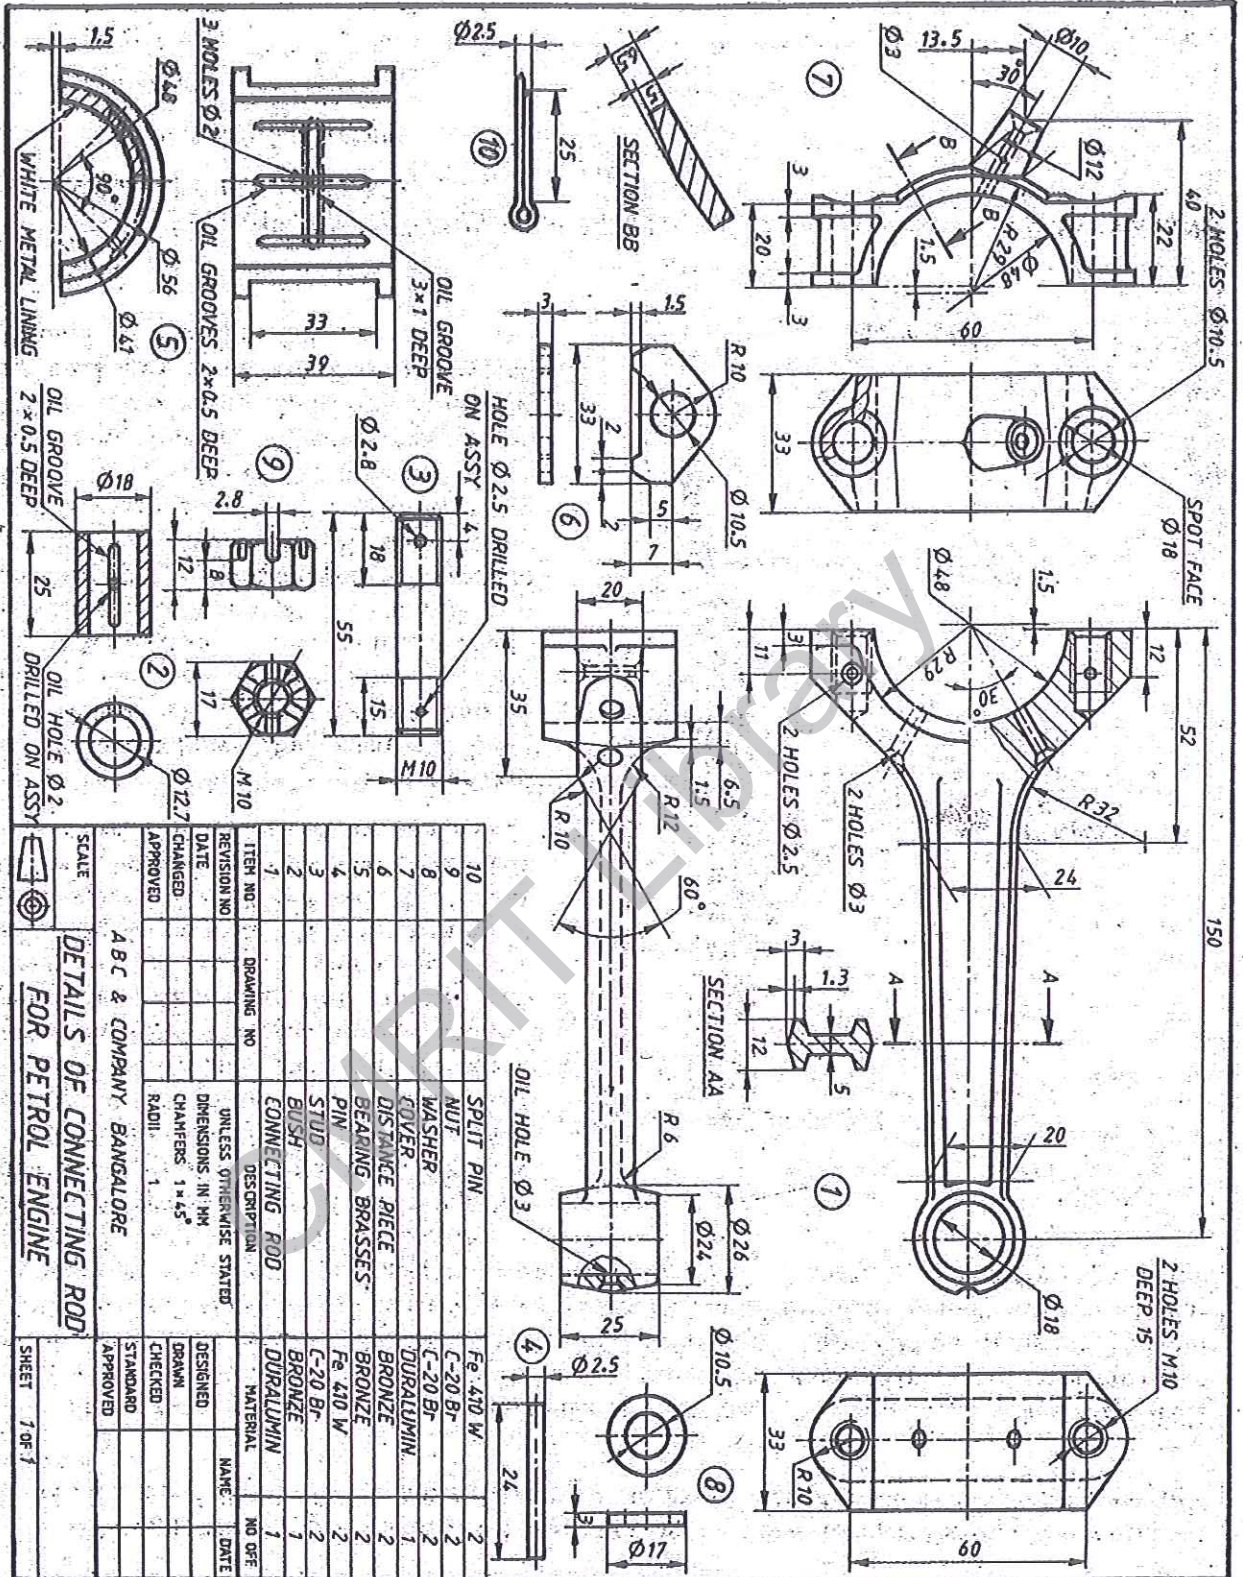

Figure 2. "I C ENGINE CONNECTING ROD".
- Q.No.6** Figure 2. Shows the details of a "I C ENGINE CONNECTING ROD". Assemble the parts and draw